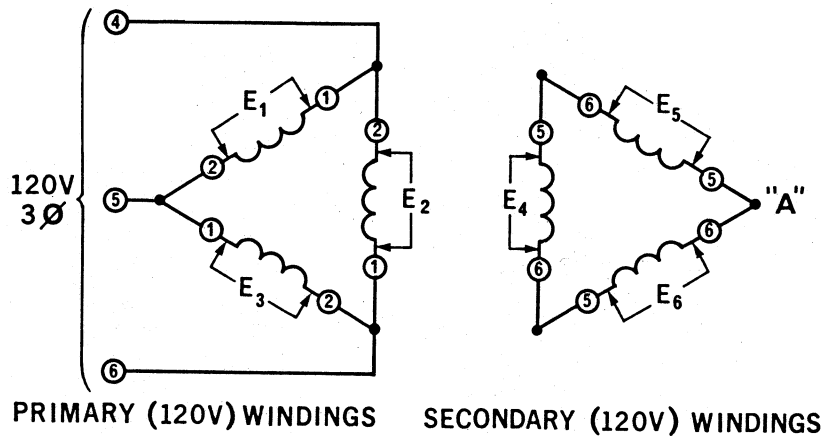

Figure 48-8.
4. a. The circuit shown in Figure 48-8 has three transformers connected in a _____ configuration.